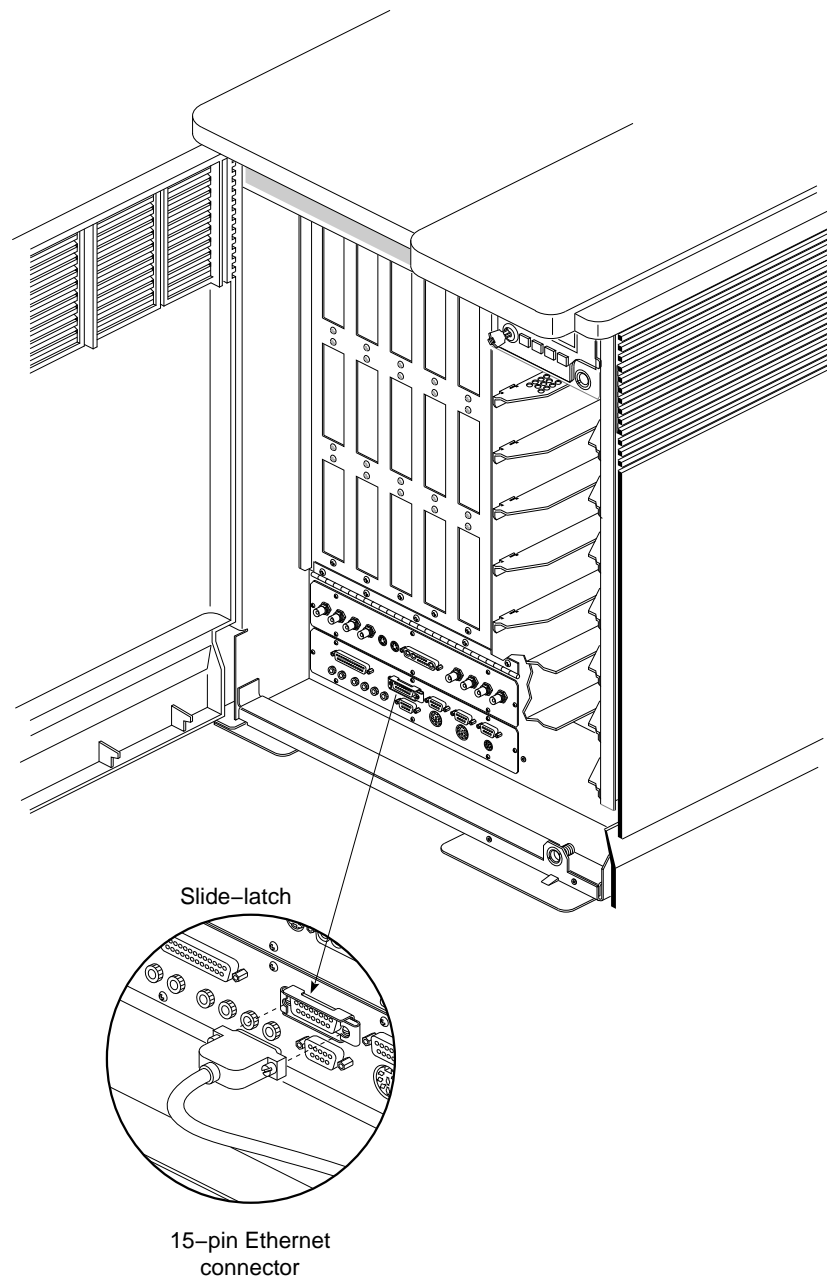

Figure 5-12 Ethernet Connection
3. Plug the cable into the applicable connector (see Figure 5-12). Secure the 15-pin connection with a slide latch.